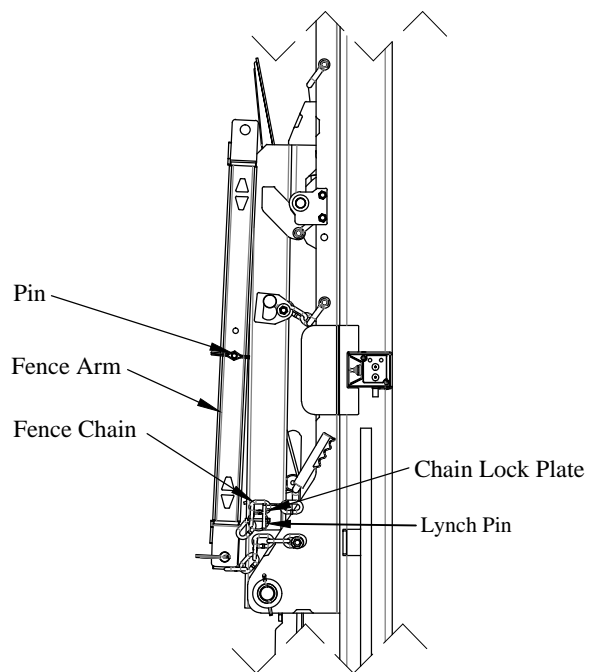

Figure 12: GBR Fence Folded.
- Step 2. Rotate the GBR Fence to the position shown (Figure 12).
- Step 3. Swing the Fence Arm down and pin to the GBR Fence (Figure 12).
- Step 4. Secure the GBR Fence in place by inserting the Fence Chain in the Chain Lock Plate on the Platform (Figure 12).
- Step 5. Secure the Fence Chain in the Chain Lock Plate with the Lynch Pin (Figure 12).